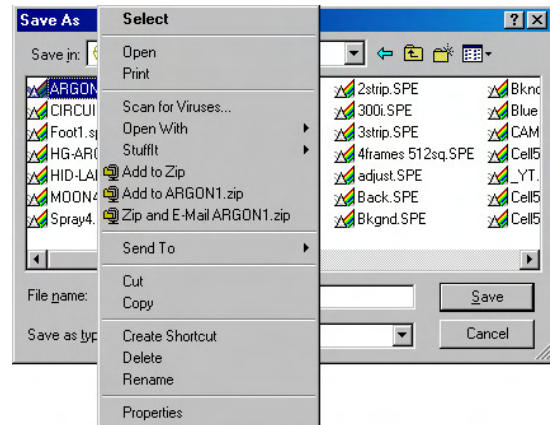

Figure 63. Right-click File Operations menu
2. Position the mouse cursor on the name of the file you want to delete and click the *right* mouse button. This will open the “right-click” File operations menu, as shown in Figure 63.